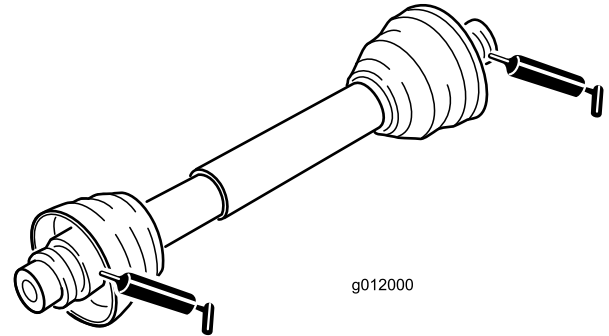

Figure 12
Under normal conditions, grease the (2) drive shaft fittings after every 100 hours of use (Figure 12). Use a No. 2 Lithium-based grease.